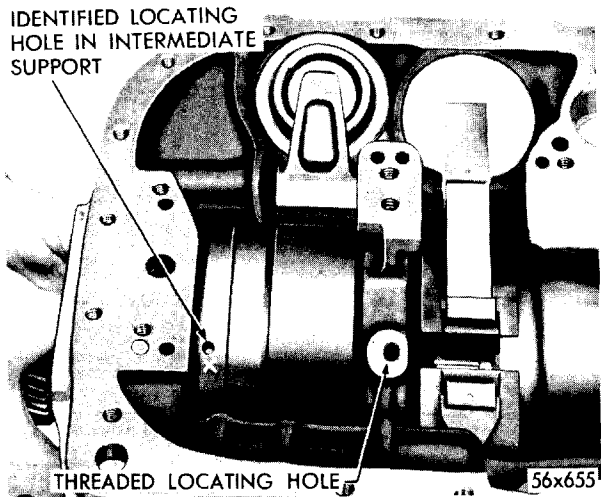

Fig. 84—Installing Unit No. 2
(1) Start unit through rear of transmission case.
(2) Align identified locating hole in intermediate support with threaded locating hole inside of transmission case, Fig. 84.
(3) By supporting and keeping unit centered as much as possible, guide it through bands until it contacts the hub of the front clutch. While pushing in on assembly, rock sun gear to engage clutch plates or rear clutch on hub of front clutch.